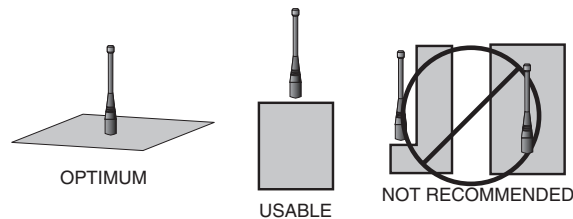

Figure 50: Ground Plane Orientation
2. Optimum performance is obtained from a $\frac{1}{4}$ - or $\frac{1}{2}$ -wave straight whip mounted at a right angle to the ground plane (Figure 50). In many cases, this isn't desirable for practical or ergonomic reasons, thus, an alternative antenna style such as a helical, loop or patch may be utilized and the corresponding sacrifice in performance accepted.